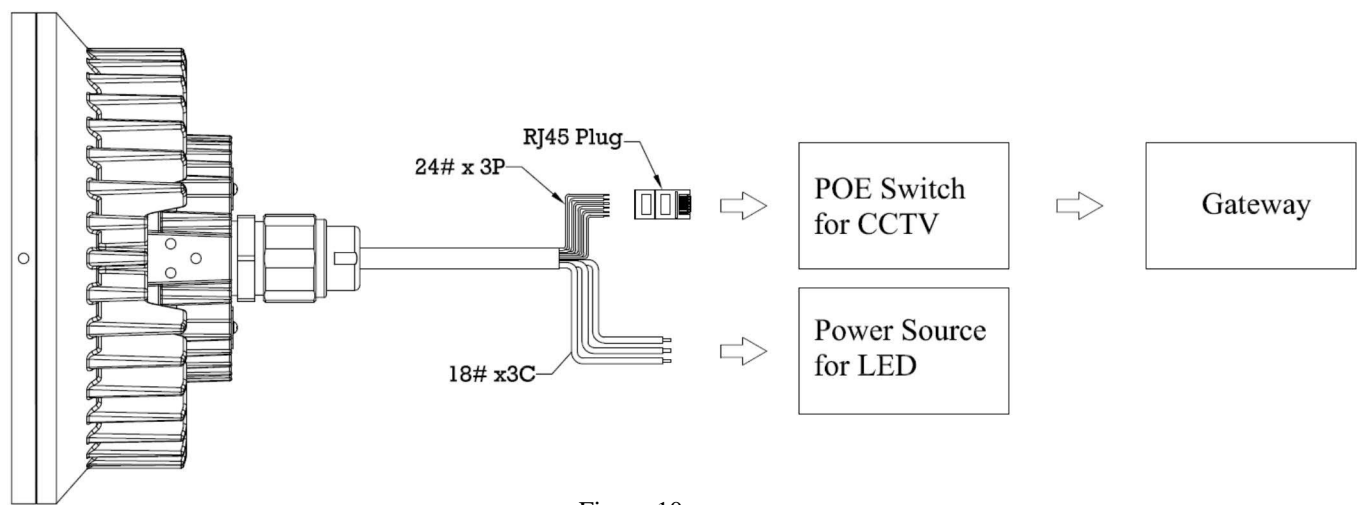

Figure 10
- ☞ The 18 # x 3C wires is intended for the LED power connection (see Figure 10)
- ☞ The 24# x 3P wire is intended for the UL LISTED POE (Max. 48V, 0.35A) connection (see Figure 10)